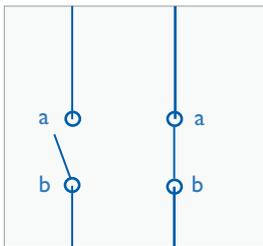

Figure 1: simple switch
- two junctions: 'a' and 'b' – see Figure 1